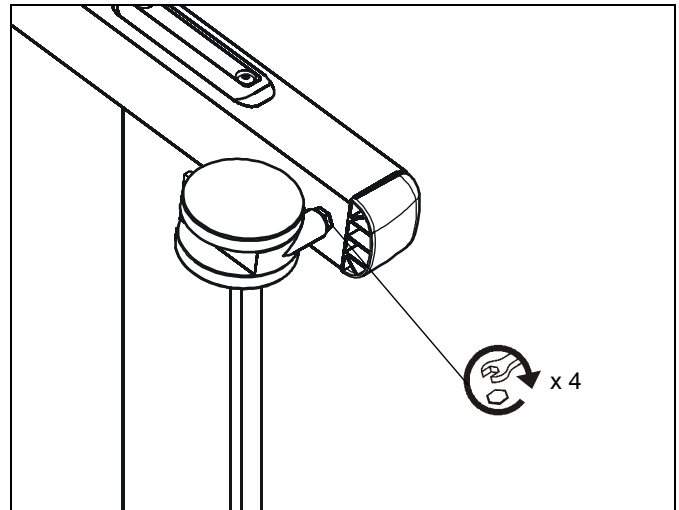

Figure 14
3. Check and tighten the hex nuts on the casters occasionally. (See Figure 14) These should be checked especially after use on uneven ground.